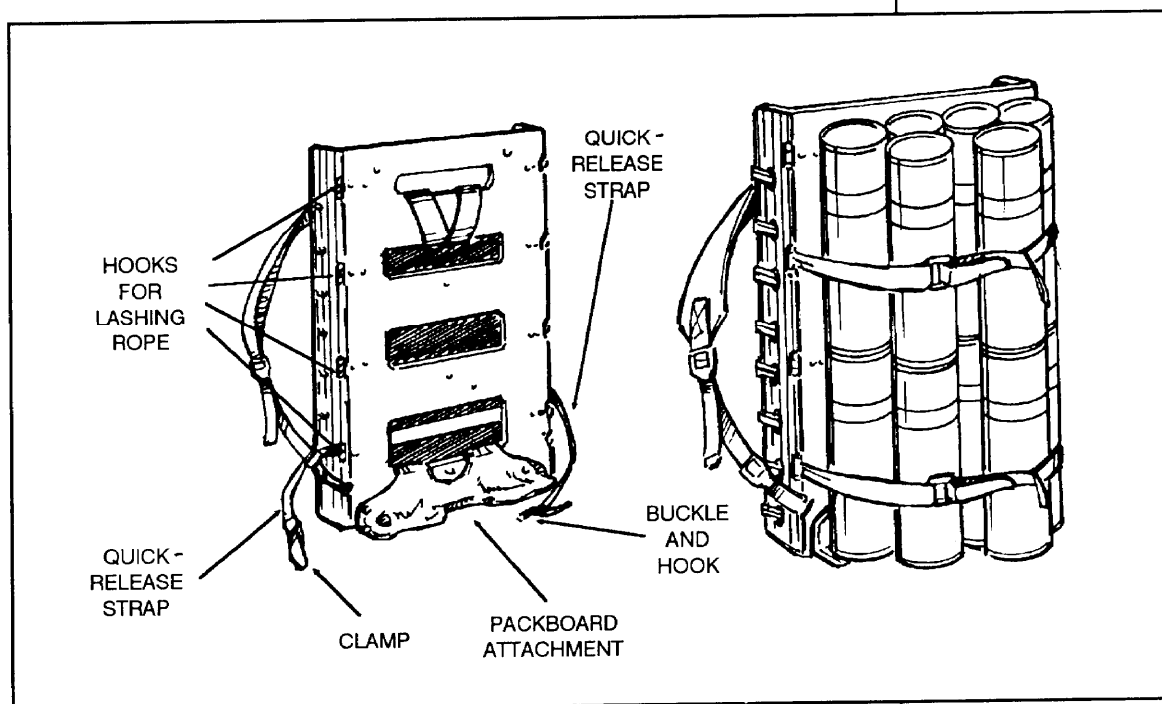

Figure 8-7. Typical packboard load.
(4) The plywood packboard is an efficient means to carry heavy loads. When the packboard is used, 50 pounds can be carried easily, and more than 100 pounds can be transported for moderate distances. Irregular-shaped loads can be lashed onto the packboard with a rope. Standard loads, like fiber canisters, are secured using the quick-release straps (Figure 8-7).